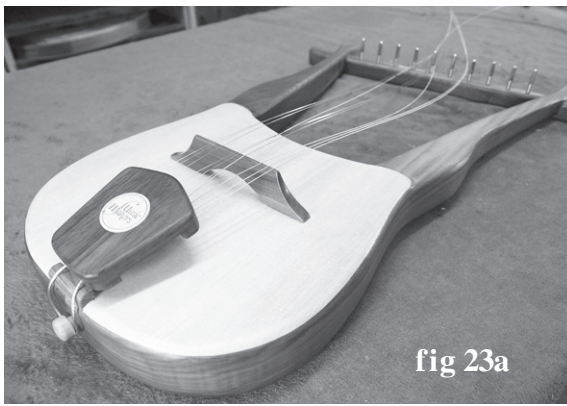

fig 23a
23. Now you can flip the tailpiece right-side-up and hook the steel tailgut around the end pin, as shown in fig 23a. Here's how to begin stringing: